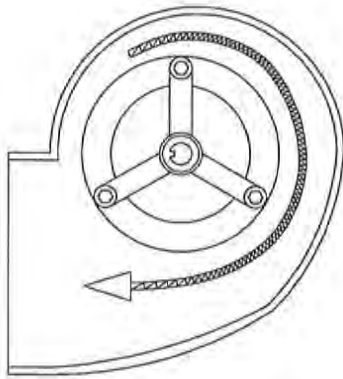

FIG. 3
3. Check blower for proper rotation. See FIG. 3.